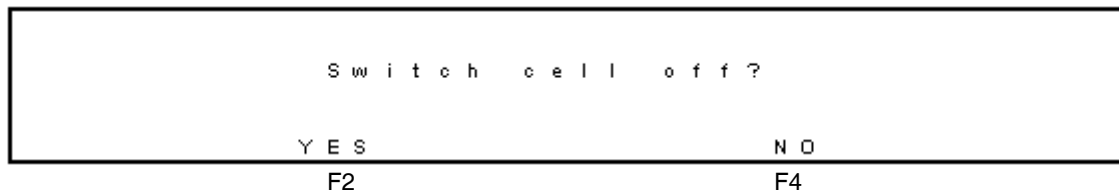

Figure 3-45 Switch Cell Off Screen
4. Select **F2 CELL=ON**. The Switch Cell Off screen appears (Figure 3-45).